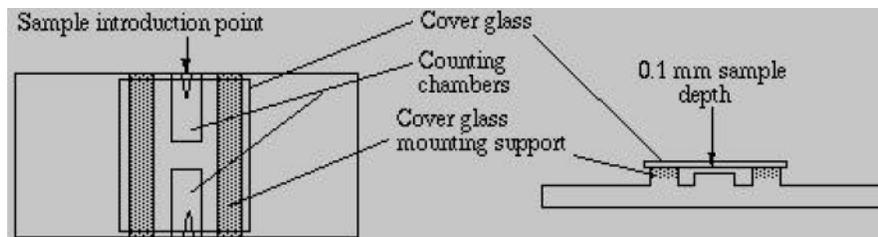

Figure 1: Diagram of hemacytometer and cover glass
9.1. Figure 1: Diagram of hemacytometer and cover glass